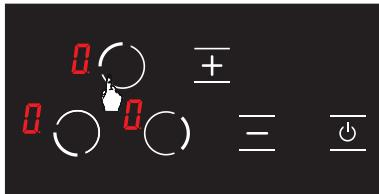

Figure 19
2. Press the upper left hob selection key (\textcircled{O}) again. (See Fig. 19)